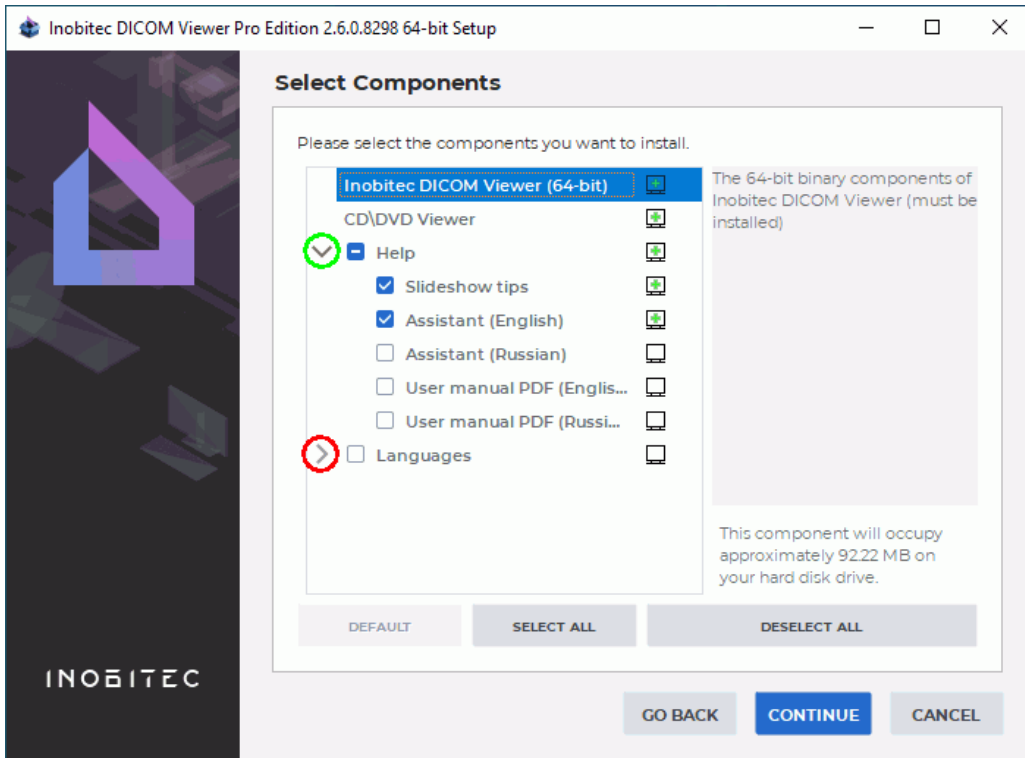

Figure 8: Select Components Window
10. In the **Select Components** window, (Fig. 8) select the required components by check the boxes. To expand or collapse the component tree, click on the symbols to the left of the component group name (highlighted in red and green in the Fig. 8):